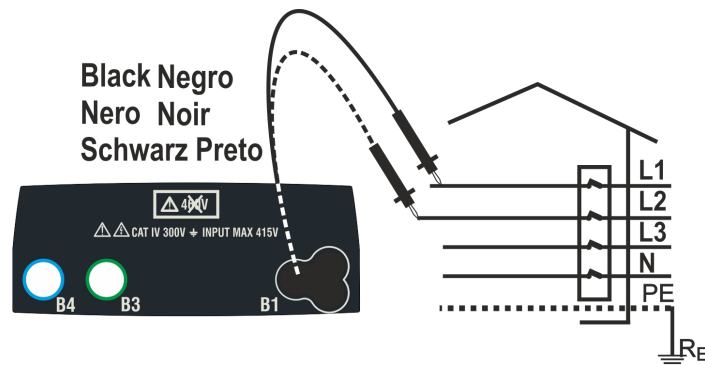

Fig. 31: Phase sequence check with test leads
2. Insert the black lead connector into the corresponding input B1 of the instrument. As an alternative, use the single cable and apply the relevant alligator clips to the free ends of the cables. It is also possible to use the remote switch probe by inserting its multipolar connector into the input B1. Connect the alligator clips or the remote switch probe to the electrical mains according to Fig. 31 or Fig. 32.
5. Under these conditions, connect the alligator clips, the tips or the remote switch probe to phase L2 in accordance to Fig. 31 or Fig. 32.